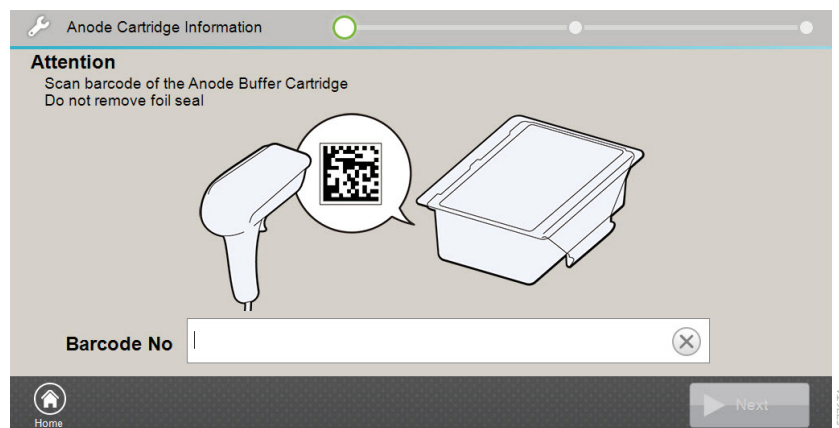

Figure 16. Anode cartridge barcode scanning screen.
3. Select **Install** in the footer to start the replacement wizard. This will open the 'Anode Cartridge Barcode Scanning' screen (Figure 16).